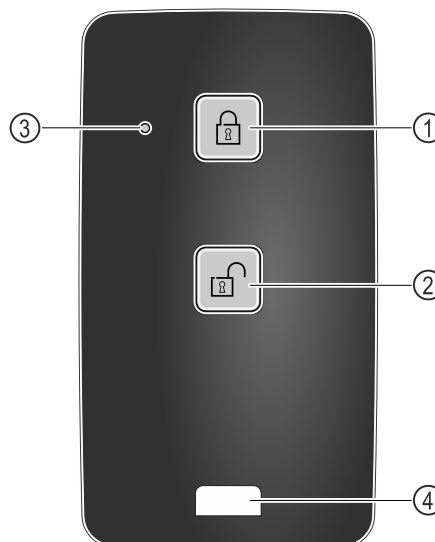

Fig. 147
- (1) Engage lock
- (2) Unlock lock
- (3) Status LED
- (4) Fastening eyelet
- Press button Fig. 147 (1) on the remote control.
- Press button Fig. 147 (2) on the remote control.
- Status LED Fig. 147 (3) provides a visual acknowledgement when you press the button.
- Eyelet Fig. 147 (4) for attaching remote control, for example, to a key ring.